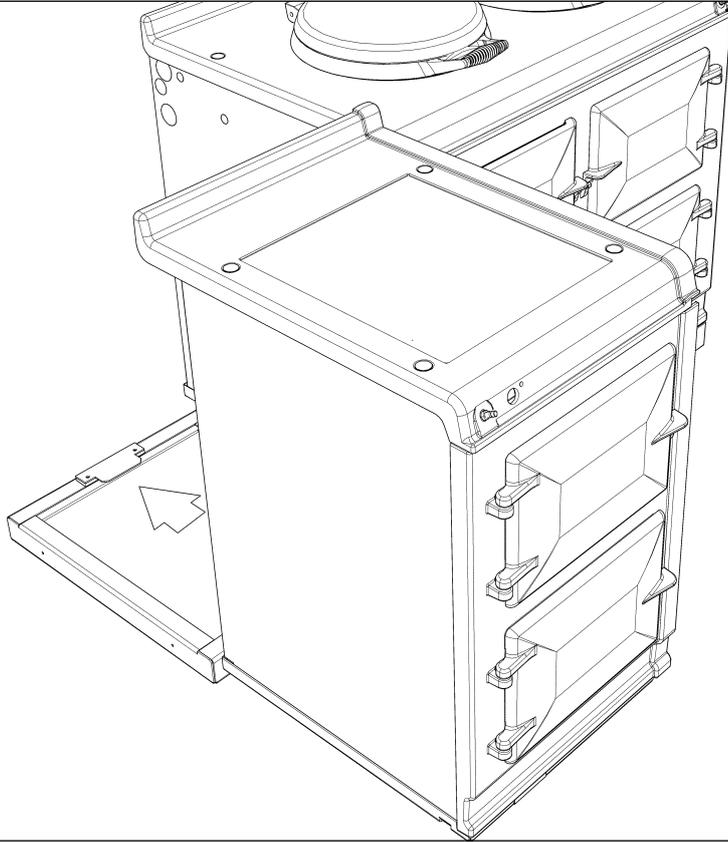

Fig. 30.7
6. Slide hotcupboard onto plinth until rear tongue bracket engages fully into rear of base slot, (**Fig. 30.7**). Ensure the appliance is aligned squarely with the plinth then proceed to engage the front tongue bracket into the slot on the underside of the base plate. Once satisfied that the front tongue bracket is engaged fully lock it into place by tightening the two M6 screws fully.